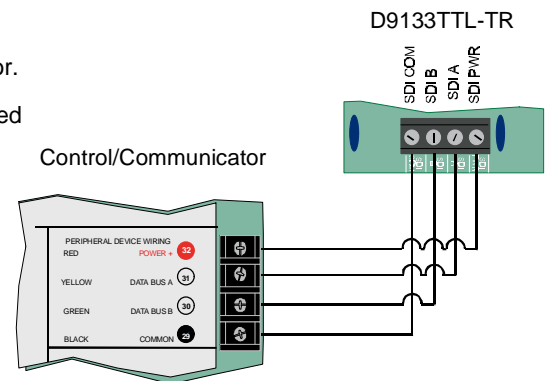

Figure 2: Wiring the D9133TTL-TR
2. Wire the D9133TTL-TR to the Control/Communicator as indicated in Figure 2 and in the table below.